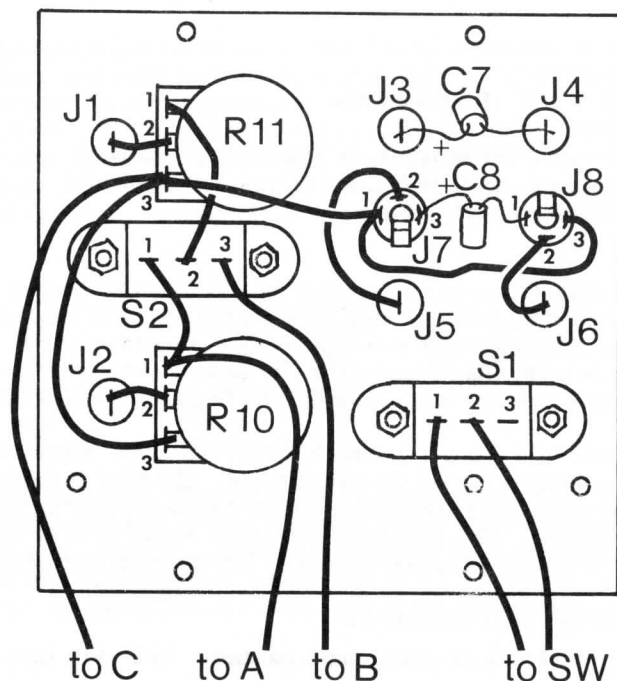
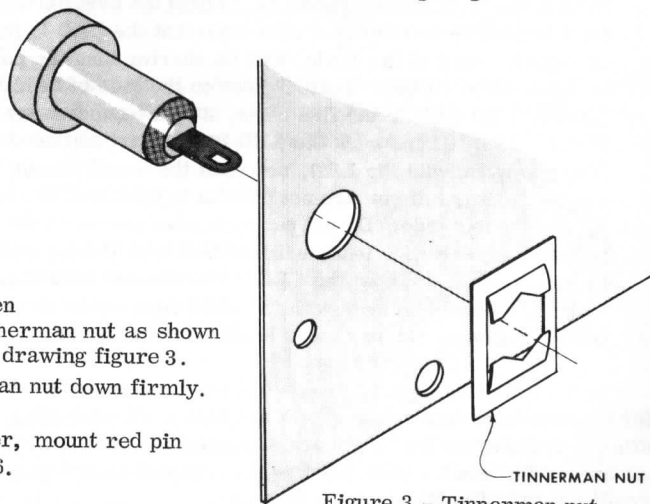

Figure 2 - Front panel parts installation & wiring diagram
Figure 3 - Tinnerman nut mounting detail
- () Place a red pin jack J1 in the hole provided as shown in figure 2. Fasten in place with a tinnerman nut as shown as shown in detail drawing figure 3. Press the tinnerman nut down firmly.
- () Mount the closed circuit mini-phone jack, J7, on the front panel in the position shown in figure 2. Orient the jack as illustrated and fasten in place with the nut provided.
- () Mount one of the 5K potentiometers, R10, in the position shown in figure 2. Use two of the 3/8 inch nuts provided, one behind the panel as a spacer and
the second one in front of the panel to hold the control in place. Adjust the rear nut so that none of the threaded shaft is exposed when the front nut is tightened down. This will allow the control knob, which will be mounted in a later step to be seated as close to the front panel as possible. Orient the control as shown in figure 2.
- () In a similar manner, mount the remaining 5K potentiometer, R11, as shown in figure 2.
- () Using two #4-40 X 1/4 inch machine screws, two #4-40 nuts, and two #4 lockwashers, mount slide switch S1 as shown in figure 2.
- () a 2 inch (5 cm) length from lug 1 of R11 to lug 2 of S2. Solder both connections. See figure 2.